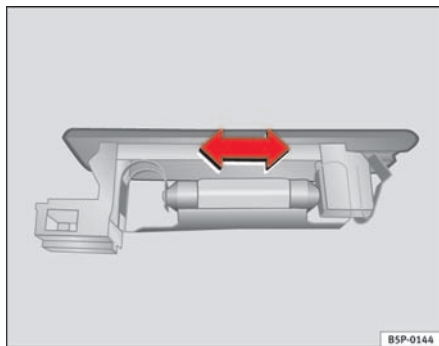

Fig. 169 Luggage compartment light
- Press the lamp sideways and remove it from its housing ⇒ fig. 169. ■